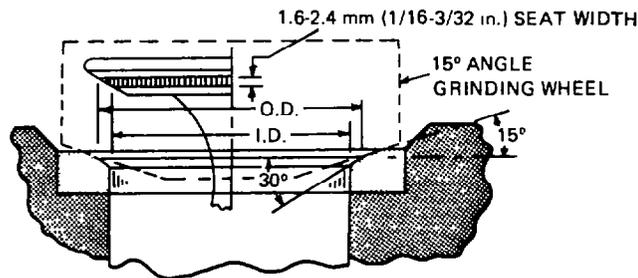

Fig. 37 — Grinding Inserts
- e. Grind the new valve seat inserts to specifications shown in fig. 37.